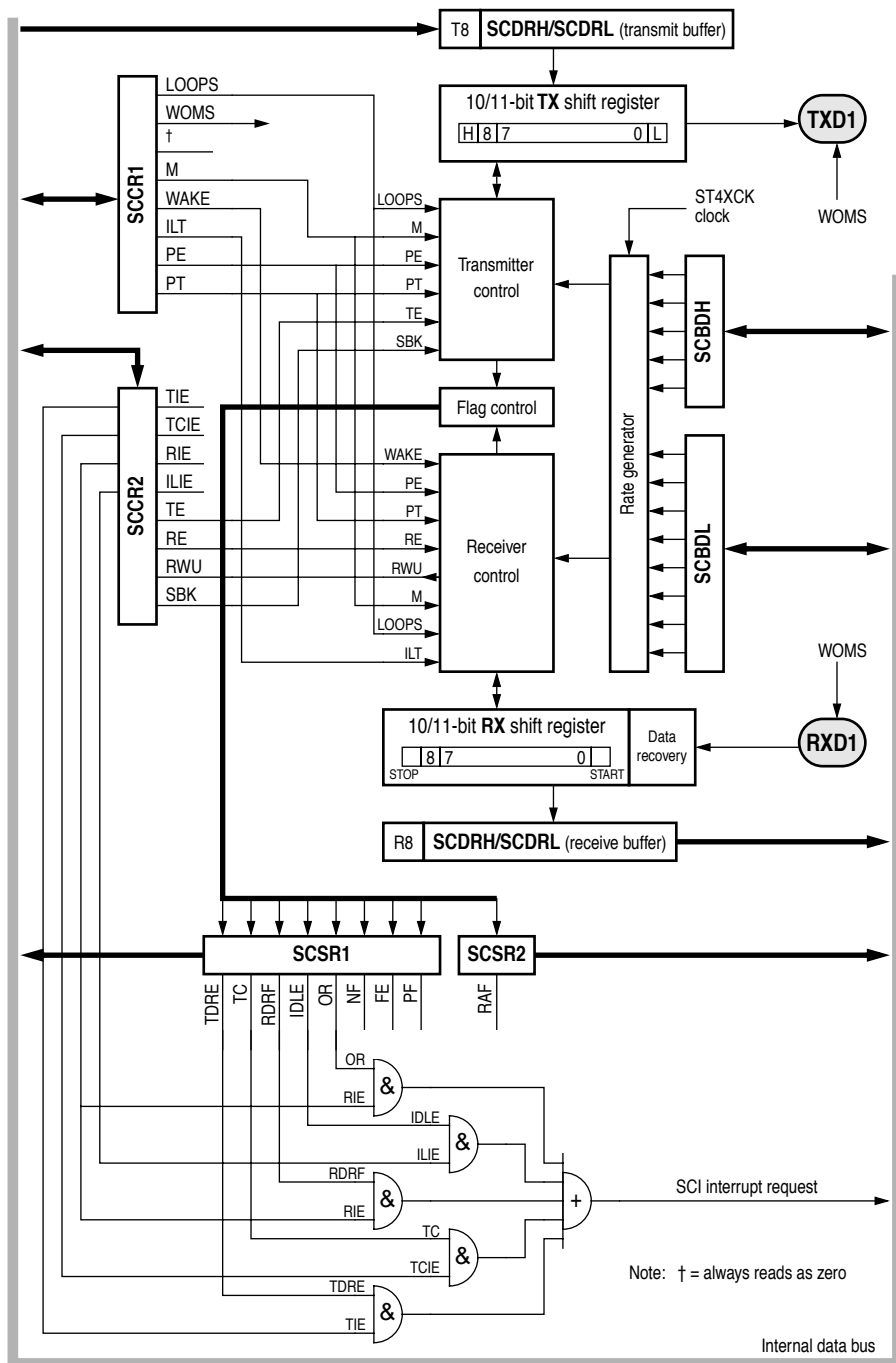

Figure 5-2 SCI1 block diagram
The SCI transmitter includes a parallel data register (SCDRH/SCDRL) and a serial shift register. The contents of the shift register can only be written through the parallel data register. This double buffered operation allows a character to be shifted out serially while another character is waiting in the parallel data register to be transferred into the shift register. The output of the shift register is applied to TXD as long as transmission is in progress or the transmit enable (TE) bit of serial communication control register 2 (SCCR2) is set. The block diagram, Figure 5-2, shows the transmit serial shift register and the buffer logic at the top of the figure.